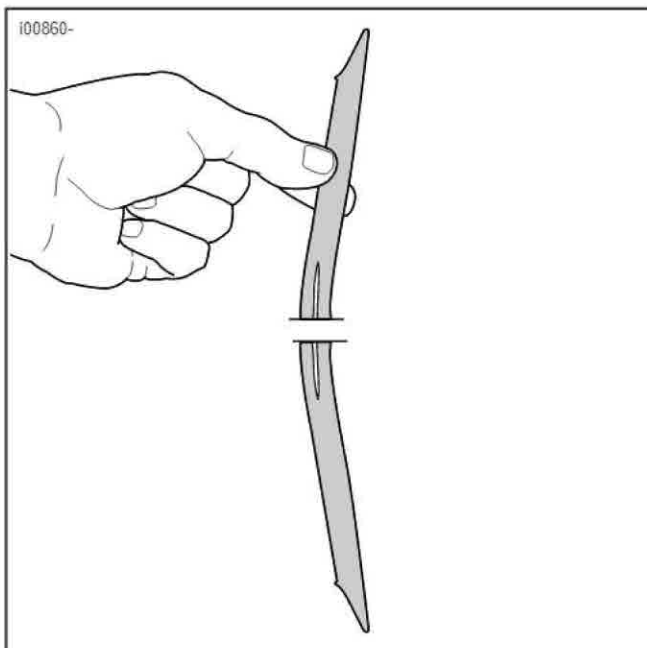

Figure 1. Slide Leather Tie Through Slots
1. See Figure 1. Slide one end of the leather tie through the slots in the surface of the item on which you intend to install the concho.